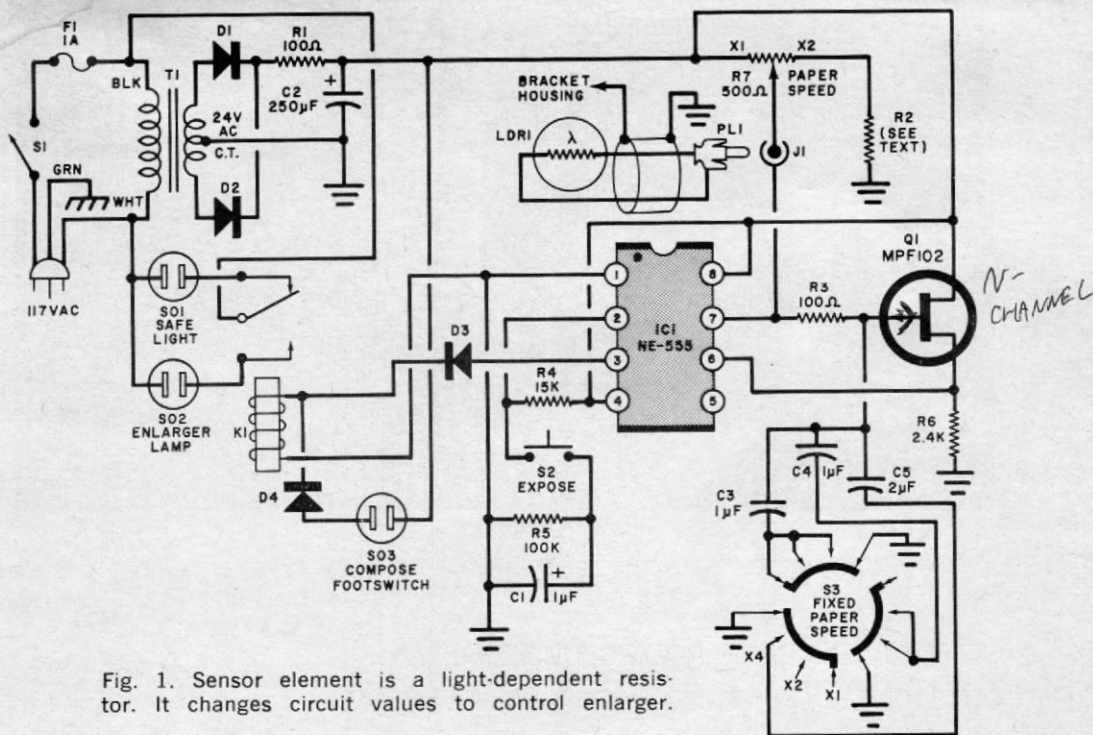

Fig. 1. Sensor element is a light-dependent resistor. It changes circuit values to control enlarger.
**How It Works.** The sensor used in the controller (LDR1 in Fig. 1) is sensitive to the entire visible spectrum, adapting the system to color printing and multi-contrast paper. It is mounted on the edge of the easel where it "looks" down at the photographic paper and picks up the reflected